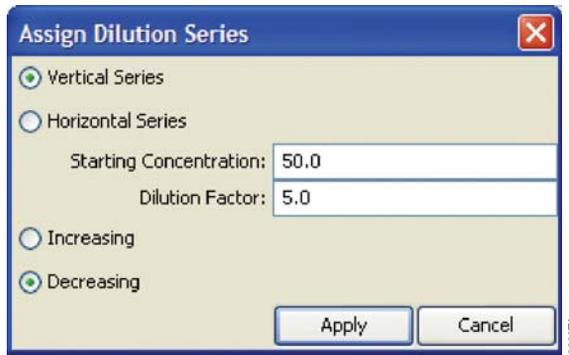

Figure 25. The Assign Dilution Series window.
- c. Confirm that the series selected is “Vertical Series” and the series is “Decreasing”. Enter 50 for the starting concentration and 5 for the dilution factor. See Figure 25.
The Plexor® Analysis Software performs a linear regression to the standard dilution series data and calculates the equation for the best-fit line (the standard curve). The equation is in the form of  $y = mx + b$ , where  $x = \log$  concentration and  $y = C_t$  (if using the software default settings). The  $R^2$  value is a measure of the fit of the data points to the regressed line. The slope ( $m$  in the equation) is an indication of the PCR efficiency. A slope of  $-3.3$  indicates 100% PCR efficiency (i.e., the number of copies of amplification product is doubled at each cycle). The  $y$  intercept ( $b$  in the equation) is defined as the  $y$  value ( $C_t$ ) when  $x$  ( $\log$  concentration) equals 0. Therefore,  $b$  gives the  $C_t$  for the  $1\text{ng}/\mu\text{l}$  standard if concentrations are defined as described in Figure 25 ( $\log_{10}(1) = 0$ ). If the value for  $b$  changes significantly from run to run without a change in the slope or  $R^2$  value of the standard curve, then this suggests the DNA standard was not sufficiently mixed before use or has degraded.